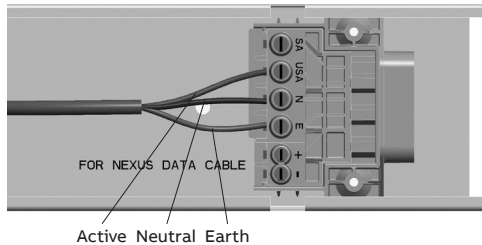

Figure 1: Quickfit terminal block connection
3. Run the cables in the ceiling or wall space as appropriate or surface mounted in conduit and through the cable hole into the bracket. Strip, connect and terminate the cables as indicated in figure 1. Ensure that the double insulation of the cable/s passes completely into the terminal block enclosure so that no single insulation is exposed when the cover plate is in place. The hole plug set includes a suitable bush to mechanically protect the cable as it passes through the opening in the mounting bracket. Likewise, the single insulation of the conductors should run right up to the metal edge of the terminals leaving no bare conductors outside of the terminals. Be careful with multi-strand conductors that all of the strands are twisted together before insertion into the terminal. Any stray strands that inadvertently come into contact with their neighbouring terminal of the metal frame of the fitting will cause undesirable results when the fitting is powered.
- For Non-maintained exit, remove the wire link between SA and USA refer (Fig 1). Connect incoming unswitched active, neutral and earth to terminal marked USA, N and E respectively.